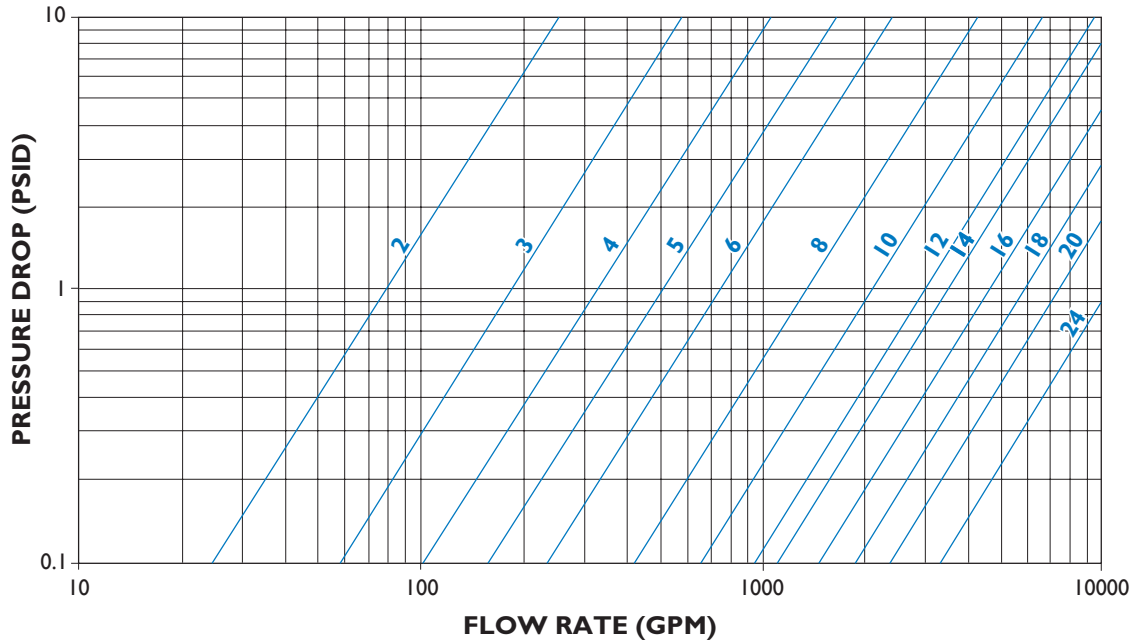

FIGURE 5
- A)** Using figure 5 the pressure drop is determined to be 2.0 psid with RPA's standard screen.